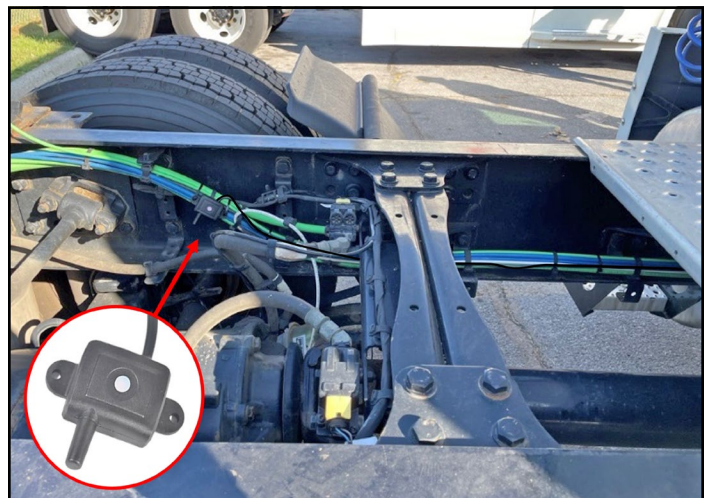

Figure 3: Recommended repeater location.
- Mount the repeater using cable ties (included), bolts, or rivets. Repeater harness should be secured to factory wire harness or air lines with supplied cable ties and route towards the battery box. See Figure 3.